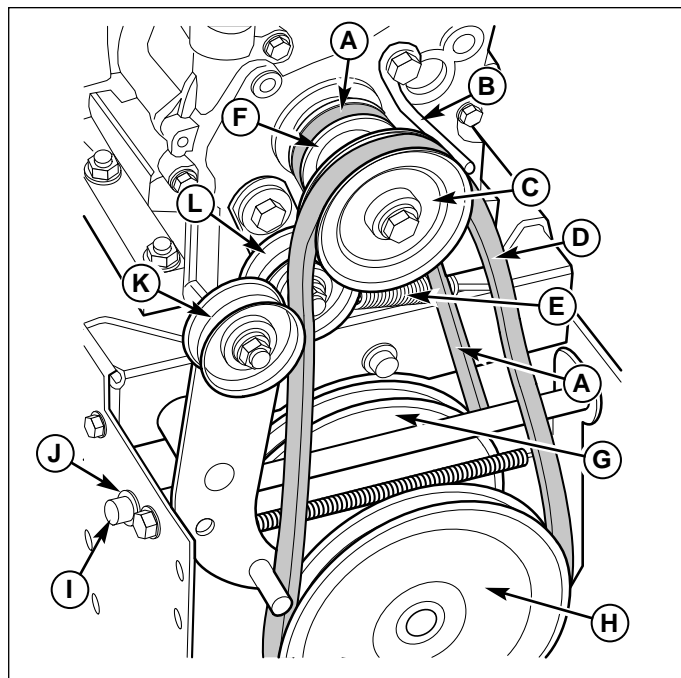
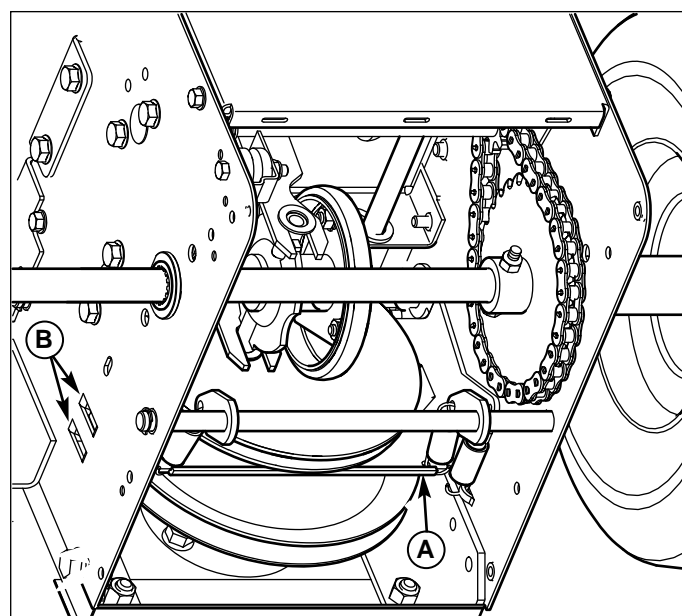

Figure 14. Pulleys and Belts
Figure 18. Traction Belt Change
5. Loosen the belt guide (B, Figure 14). Pull the belt guide away from the auger drive pulley (C).
6. Pull the auger idler pulley (K) away from the auger drive belt (D) and slip the belt off of the idler.
7. Remove the auger drive belt (D) from the engine pulley. To remove the auger drive belt (D), the auger drive pulley (C) may have to be partially rotated.
12. Remove the old auger drive belt (D, Figure 14) from the impeller pulley. Replace the auger drive belt with an original factory replacement belt (available from an authorized service center).
13. Install the new auger drive belt (D) onto the impeller pulley (H).
3. Remove the traction drive spring (E, Figure 14).
4. Remove the e-ring (J, Figure 14) from one end of the swing plate axle rod (I).
5. Remove the swing plate axle rod (I) to allow the swing plate (A, Figure 14) to pivot forward.
6. Remove the old traction drive belt (A) from the traction drive pulley (G) and from the traction drive pulley (F). Replace the traction drive belt (A) with an original factory replacement belt available from an authorized Dealer.
7. Install the new traction drive belt (A) onto the traction drive pulley (G) and onto traction drive pulley (F).
8. Make sure the traction drive idler pulley (L) is properly aligned with the traction drive belt (A).
9. Install the swing plate axle rod (I) and secure with the e-ring (J) removed earlier.
10. The bottom of the swing plate (A, Figure 18) must be positioned between the alignment tabs (B). Make sure the swing plate is properly secured.
11. Attach the traction drive spring (E, Figure 14).